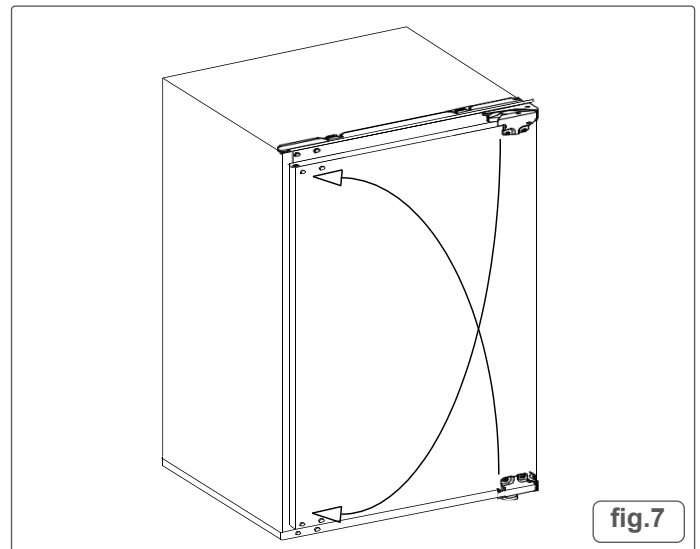

fig.7
• DOOR REVERSAL INSTRUCTIONS (fig.7)